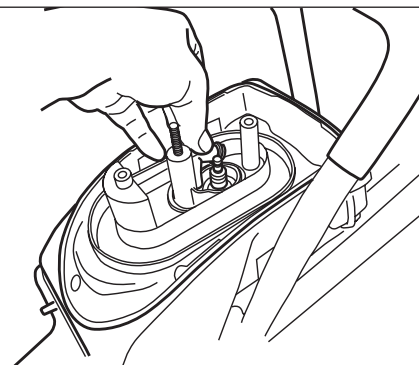

Figure 14
4. Remove the plug cap and disconnect the spark plug by using the plug wrench. See Figure 14. Check to see if the spark plug electrode is fuel-soaked.